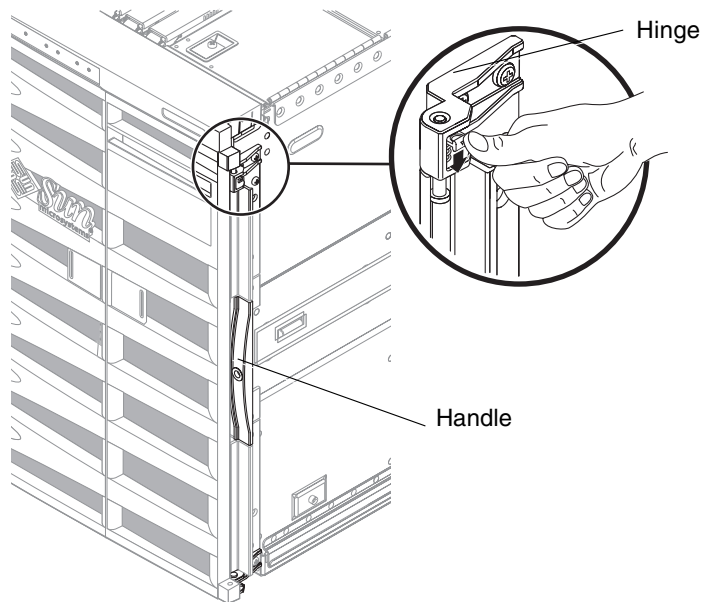

FIGURE 15-1 Bezel Hinge Release Mechanism
5. Remove the appropriate front bezel door (FIGURE 15-1). Release the two hinges on each section of the bezel by pressing down on the hinge pin levers.